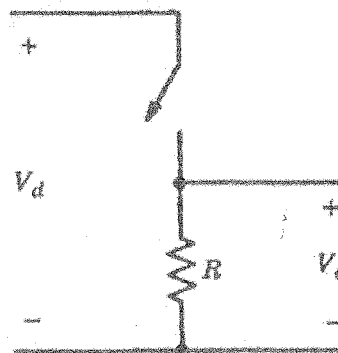

Figure Q2a
- b) A circuit diagram of a simple step-down dc-dc converter is shown in Figure Q2a.